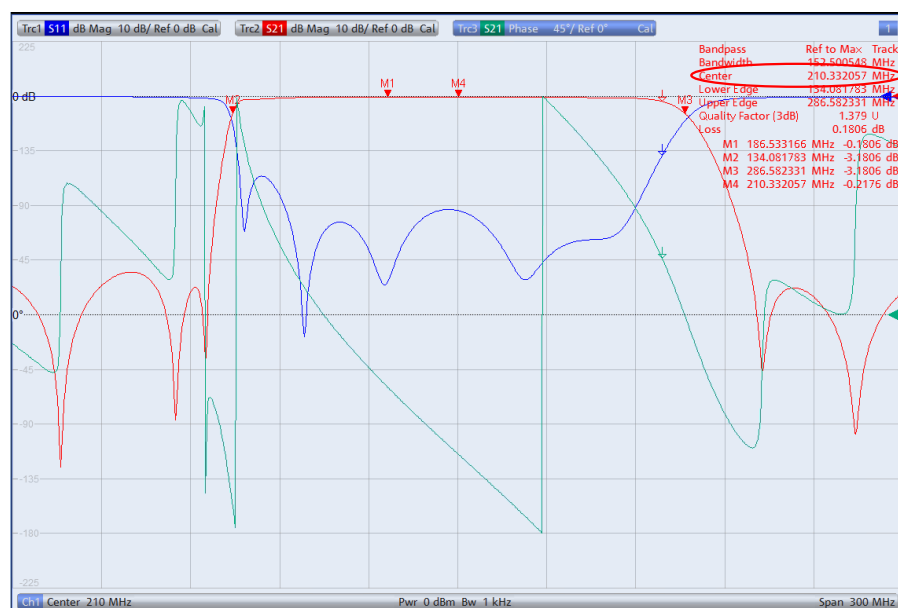

Fig. 5-10: Display of the absolute bandpass center frequency.
- Select the *Advanced* tab and disable *Geometric Calculation of Bandfilter Center*. In place of the geometric mean, the absolute center frequency of 210.33 MHz is now displayed (Fig. 5-10).